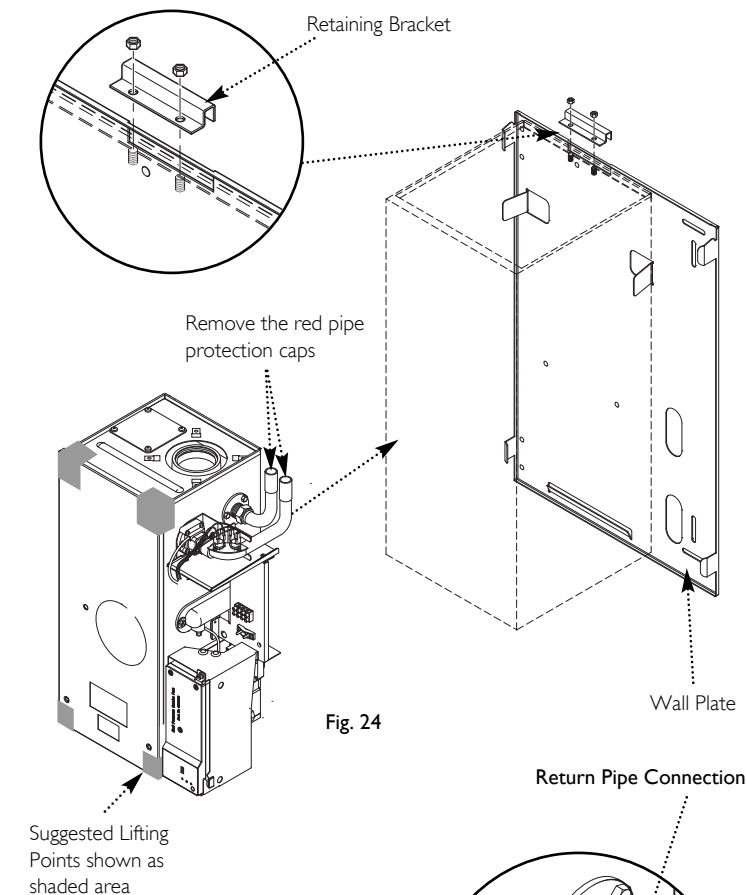

Fig. 24
10.3 Fitting The Boiler (Fig. 24)
2. Offer up the boiler to the wall plate using the lifting points shown in Fig. 24 and locate the rear bottom edge onto the self locating support at the base of the wall plate. (See **Safe Manual Handling** page 5.)
NOTE: When installing in a Loft/Small Compartment, access for lifting the boiler from the front can be gained for two people using the lifting points. (Fig. 24).